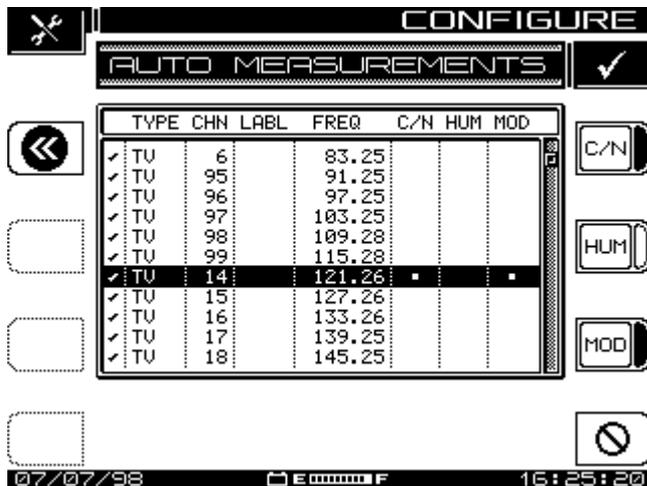

Figure 10-10: Auto Measurements
1. Select Specify **Auto Measurements**, press Edit Bar soft key, and Figure 10-10, **Auto Measurements** appears.